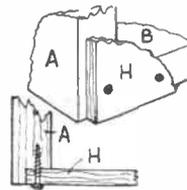

Fig. 4
Both methods are given in Fig. 4. The shelves (E) and the floor (B) will be ¾in. less wide if the second method is adopted. In assembling the various parts connect the top of the sides by the cross rails, and add the floor (B).